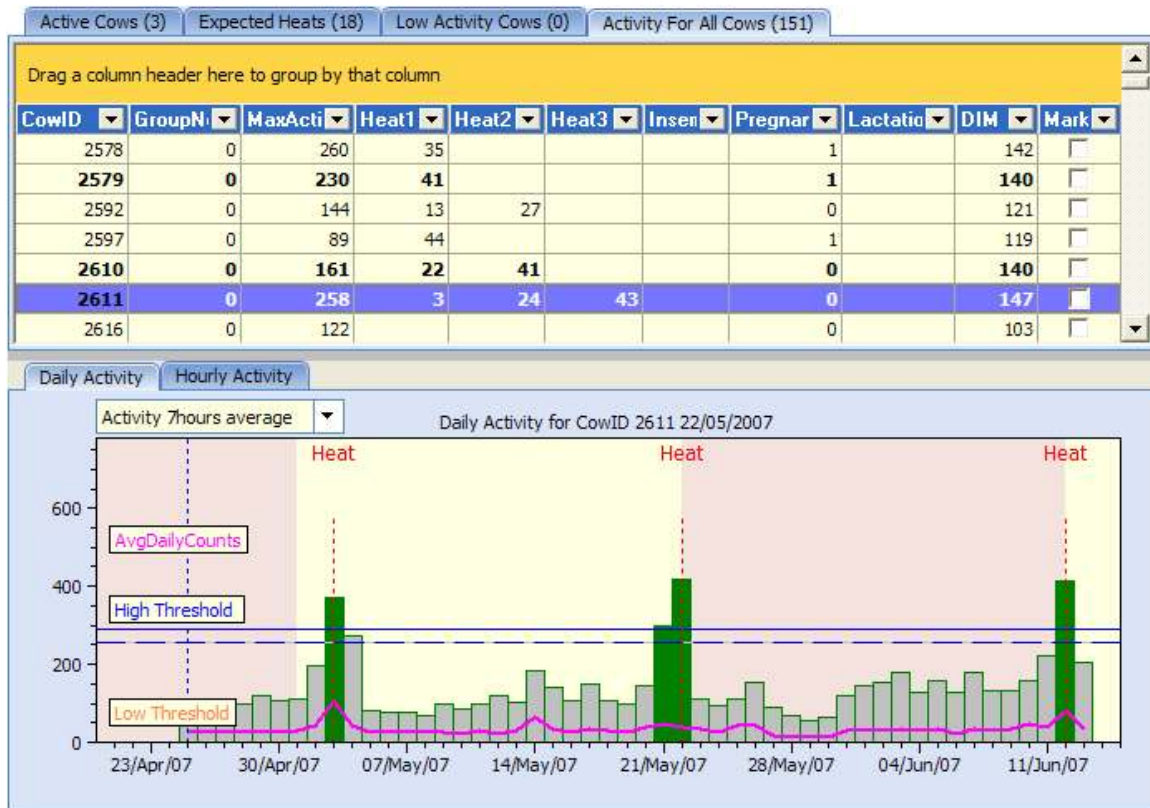

Figure 11 Activity for All Cows Tab.
Click on the 'Activity for All Cows (151)' tab on the top of Figure 11 to move into the Activity for All Cow's tab. This tab shows the activity data for all CowID's in the herd. The number (151) denotes that there are 151 CowID's in this herd.